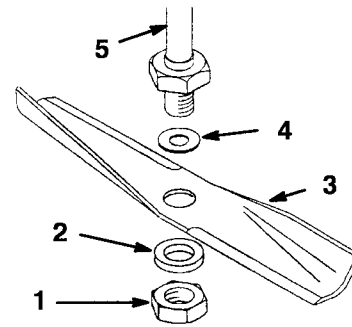

Figure 34
1. Hold the blade end using a rag or thickly padded glove. Install the blade, flat washer, and the blade bolt (Fig. 34).